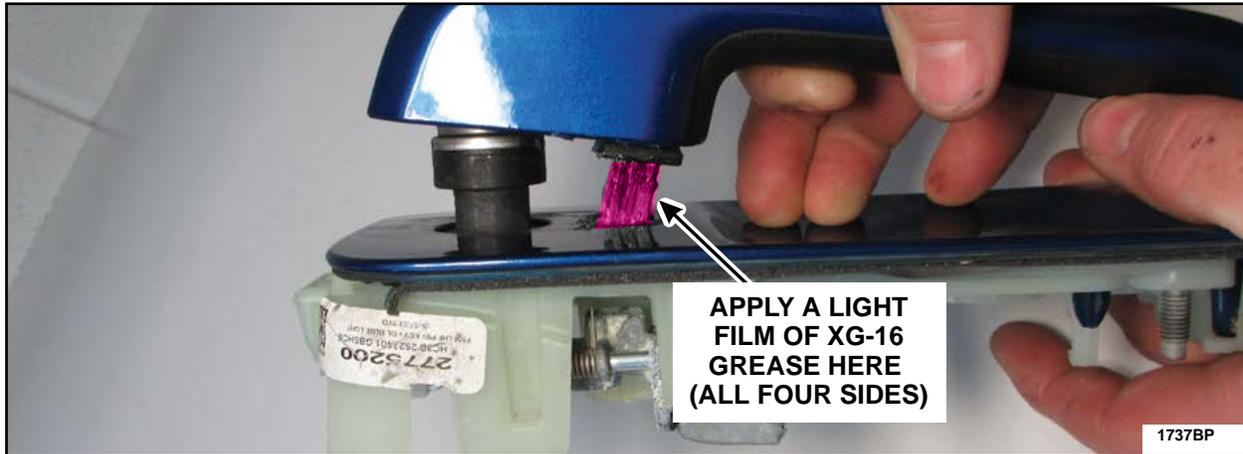

FIGURE 96
22. Using a clean shop cloth and isopropyl alcohol, clean the handle plunger then, using a brush, apply a light film of Motorcraft® XG-16 low temperature grease to all four sides of the exterior door handle plunger and to the mechanisms in the areas shown in Figures 96 and 97.